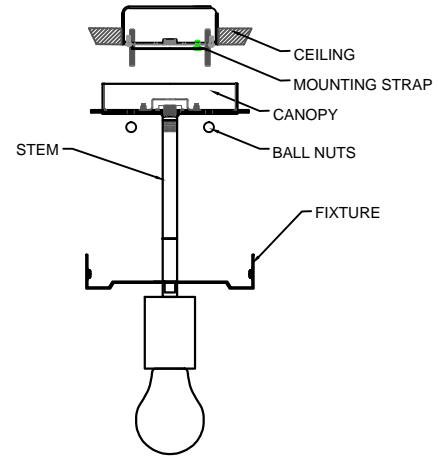

FIGURE-03
- Using the ball nuts, loosely fasten the fixture to the mounting strap. Rotate and align the canopy as necessary. Tighten the ball nuts. (See Figure-03)